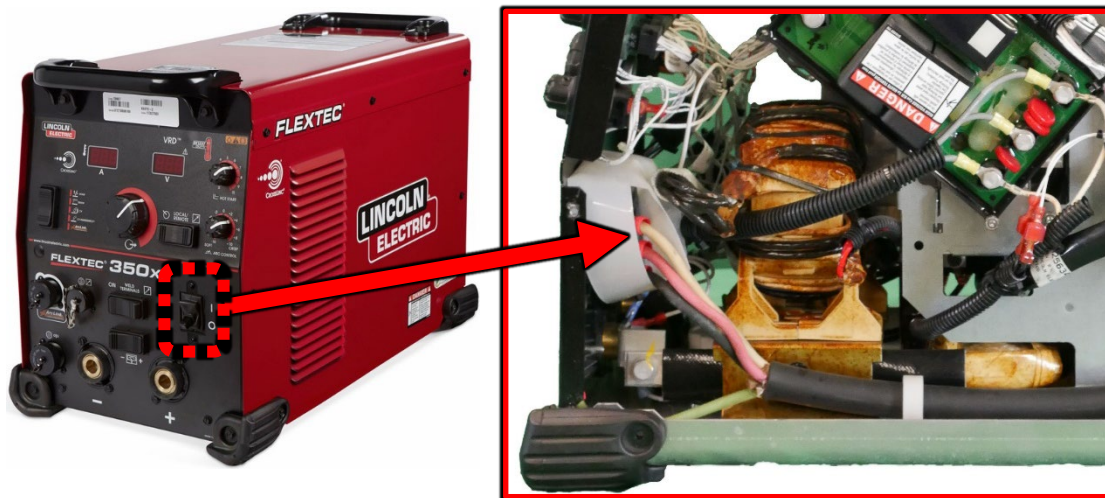

Figure F.1
1. For location of the Line Switch refer to Figure F.1.